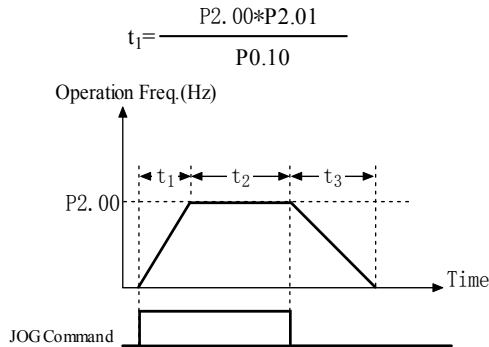

Fig. 5-2-1 Description of Jog parameters
- ◆ As shown in Fig. 5-2-1, t₁ is Acc time of Jog and t₃ is Dec time of Jog, t₂ is the Jog time; P2.00 is the Jog frequency.